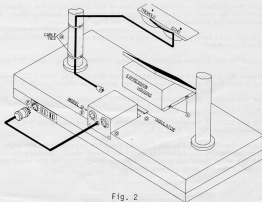

Fig. 2
6. Loosen but do not remove the four screws securing the expression housing to the wooden base of the console. (See "C" on Fig. 2.)
7. Place the insulation material provided on the front lip of the connector chassis. Insert the lip under the rear of the metal expression housing base. Center the chassis behind the housing. (See "D" on Fig. 2.)
9. Re-tighten the screws securing the expression housing. (See "C" on Fig. 2.)
10. Remove the Model 12 speaker cable from the console "OUTPUT" socket and plug it into the 7-contact socket on the connector chassis. (See "E" on Fig. 2.)
11. Plug the adapter cable into the "OUTPUT" socket on the console. (See "F" on Fig. 2.)
12. Plug the LESLIE Speaker cable into the 6-contact socket on the connector chassis. (See "G" on Fig. 2.)
16. Route the control cable down the right-hand chrome stand and insert the plug into the 7-contact socket on the side of the connector chassis. Secure the control cable to the stand using the nylon cable ties provided. (See "H" on Fig. 2).